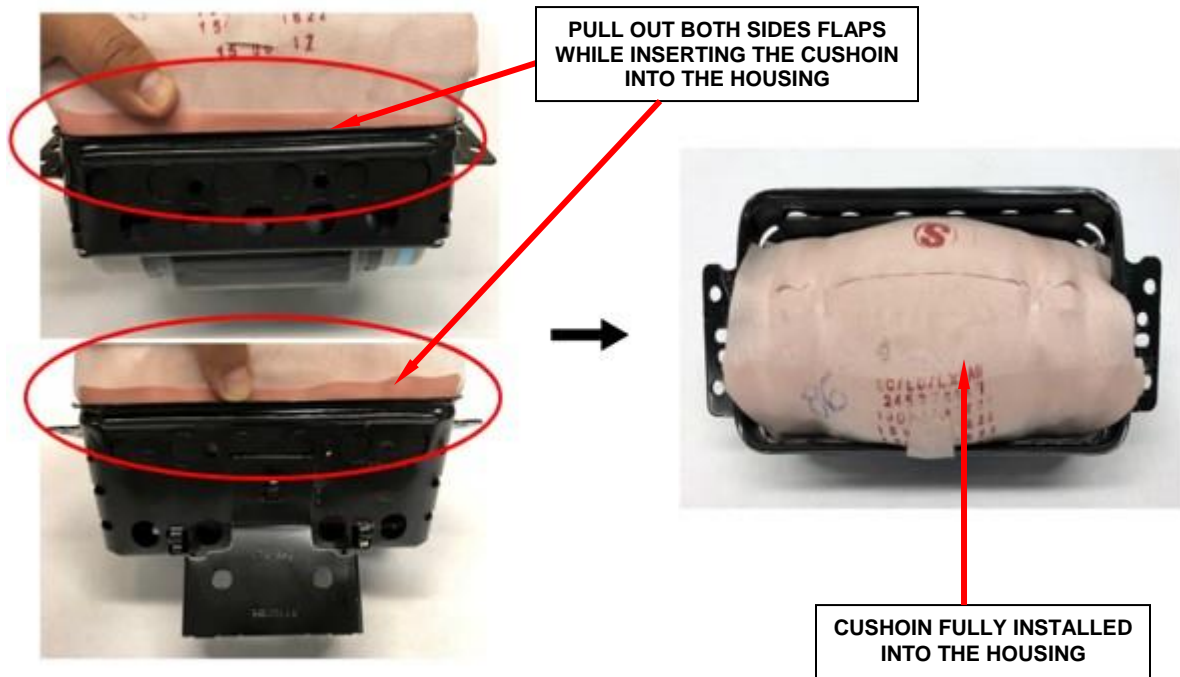

Figure 32 – Side Flaps Must Be Held Out
k. Insert the cushion, pulling out both side flaps (Figure 32).